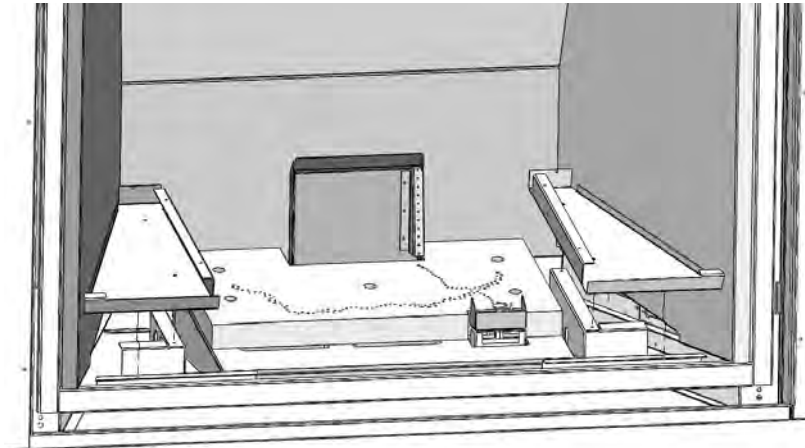

Figure 89: Installing Burner Cover Supports
15. Install the Left and Right Burner Cover Support as shown in Figure 89. Each burner cover is installed using three (3) T-20 Torx screws supplied.